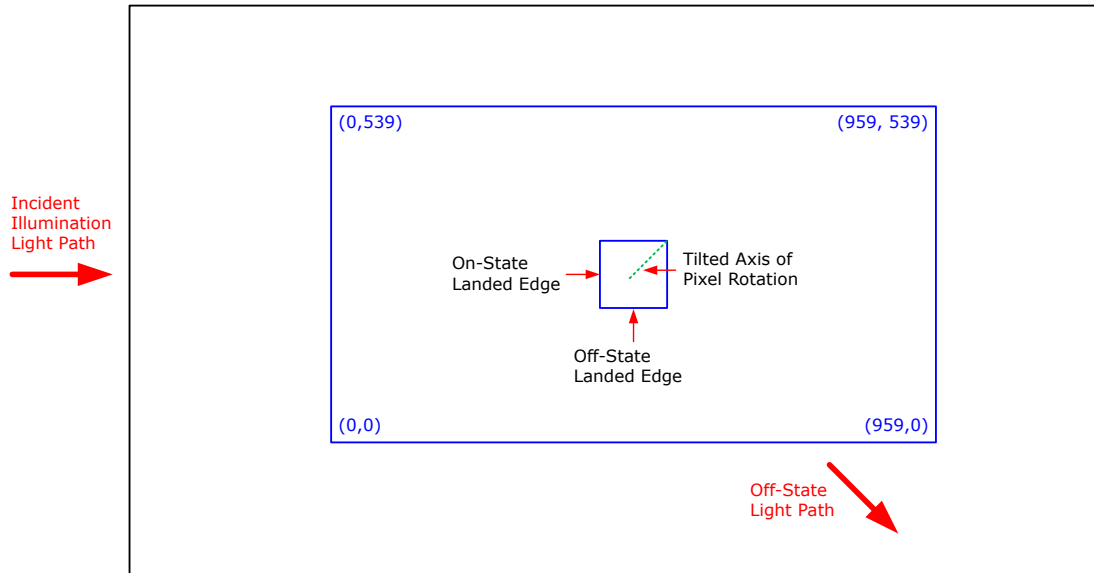

Figure 5-17. Landed Pixel Orientation and Tilt
- (1) Measured relative to the plane formed by the overall micromirror array.
- (2) Additional variation exists between the micromirror array and the package datums.
- (3) Represents the landed tilt angle variation relative to the nominal landed tilt angle.
- (4) Represents the variation that can occur between any two individual micromirrors, located on the same device or located on different devices.
- (5) For some applications, it is critical to account for the micromirror tilt angle variation in the overall system optical design. With some system optical designs, the micromirror tilt angle variation within a device may result in perceivable non-uniformities in the light field reflected from the micromirror array. With some system optical designs, the micromirror tilt angle variation between devices may result in colorimetry variations, system efficiency variations or system contrast variations.
- (6) When the micromirror array is landed (not parked), the tilt direction of each individual micromirror is dictated by the binary contents of the CMOS memory cell associated with each individual micromirror. A binary value of 1 results in a micromirror landing in the ON state direction. A binary value of 0 results in a micromirror landing in the OFF state direction. See Figure 5-17.
- (7) Micromirror tilt direction is measured as in a typical polar coordinate system: Measuring counter-clockwise from a 0° reference which is aligned with the +X Cartesian axis.
- (8) The time required for a micromirror to nominally transition from one landed state to the opposite landed state.
- (9) The minimum time between successive transitions of a micromirror
- (10) Conditions of Acceptance: All DMD image quality returns will be evaluated using the following projected image test conditions: